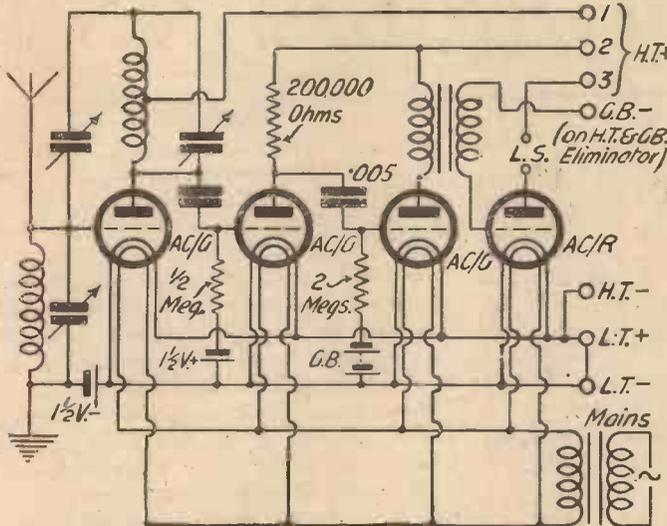

Fig. 3. Diagram showing the necessary modifications
(1) Short circuit the existing L.T. terminals on the set. This is done to ensure that the cathodes, which are only inserted on one side of the old filament circuit, are at earth potential and also, of course, that all connections that were made to both L.T.+ and L.T.- are connected to the cathodes and earth. The filament switch and all rheostats must either be short circuited or left permanently at the "on" position.
(2) Negative grid bias at 1½ to 3 volts must be applied to the grids of all H.F. valves. This is shown clearly in the rearranged circuit Fig. 3.
(3) Positive grid bias of 1½ volts must be applied to the detector grid where cumulative-grid detection is employed.
(4) The usual 2-megohm grid leak must be replaced by one having a value of ½ megohm.
(5) The R.C. coupling components should have the following values: Anode resistance, 100,000 to 250,000 ohms; grid leak,